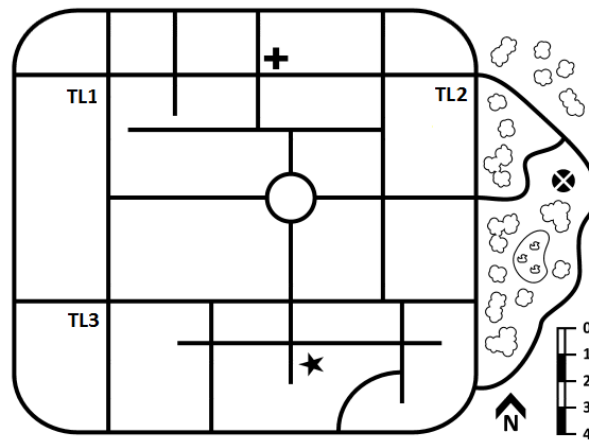

Figure 2.2: Traffic light locations on QNET Mechatronic Systems silk
1. Open Mechatronic Systems.lvproj, and under Quanser ELVIS RIO | Subsystems, open State Machine.vi. Run the VI. After the Calibration bar is full, move the manipulator manually till one of the traffic light LEDs is at the centre of the image. Note the joint angle coordinates. Repeat this for the other two traffic lights shown in Figure 2.2.